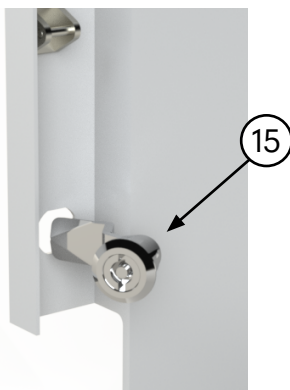

Figure 10
- Take the double quarter-turn latches (Item 15) and insert one into the top and bottom holes on the outside of the right disconnect door. If the latch is aligned to the cutout properly it does not take much force to insert it. Refer to Figure 10.